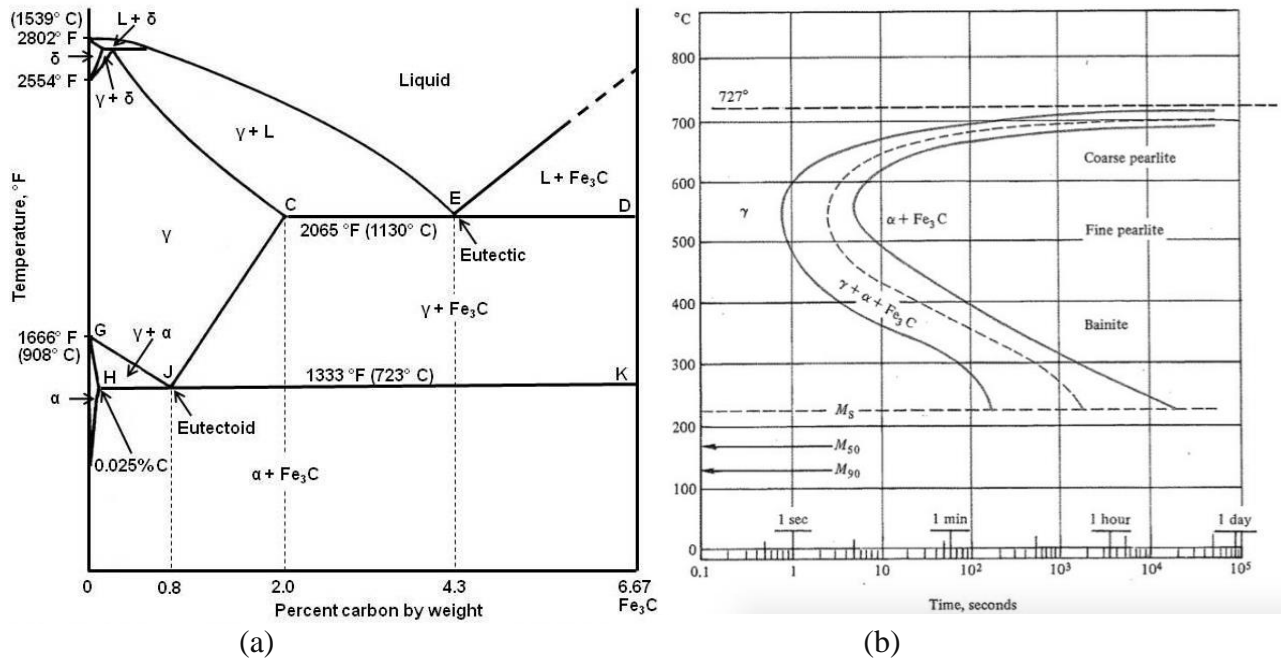

Figure 1 / *Rajah 1*: (a) Binary phase diagram of Fe-C / *gambarajah fasa binary Fe-C* and (b) TTT diagram of eutectoid steel / *gambarajah TTT keluli eutektoid*
- (b). The binary phase diagram of Fe-C is given in Figure 1 (a) whereas (b) gives the TTT diagram for eutectoid steel. Discuss the following: